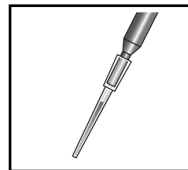

Figure 2
3. Depress the plunger on the minipet. Immerse the tip in the sample to be tested and release the plunger. When the plunger is released, a portion of the test sample will be drawn into the yellow tip (fig. 2).